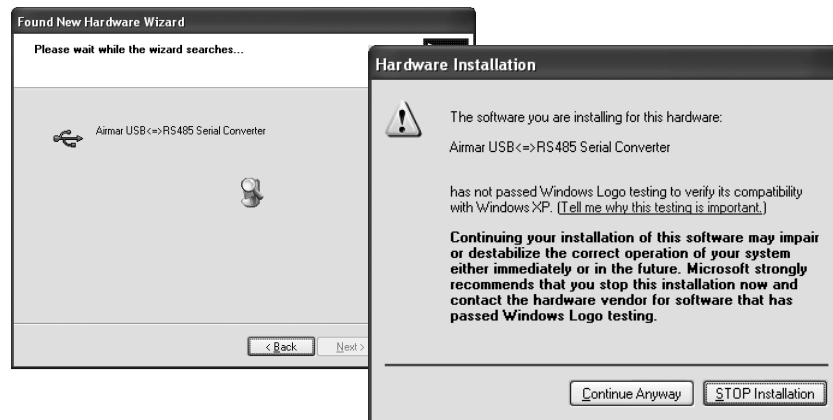

Figure 13. Please Wait window and Hardware Installation Caution window
5. The Please Wait window followed by the Hardware Installation caution window will appear (see Figure 13). The USB Controller Driver is not Microsoft Windows® certified, however, it has been tested for stable and reliable operation. Click Continue Anyway to proceed with the installation.